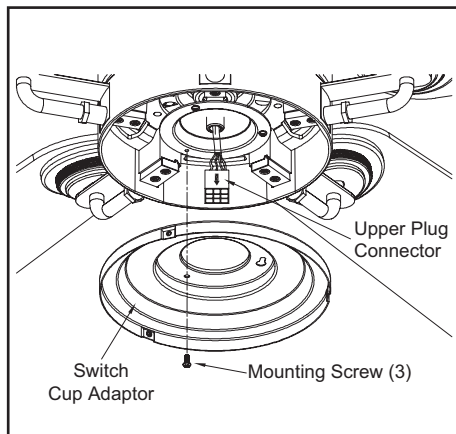

Figure 15
1. Remove one screw from the black bracket from the fan motor assembly. Loosen, but do not remove the other two screws. Align the key hole slots in the switch cup adaptor with the two screws in the black bracket. (Figure 15)
2. Turn the switch cup adaptor clockwise until the two screws are situated in the narrow end of the keyholes. Re-install the one screw that was removed in step 1. Tighten all screws firmly. (Figure 15)